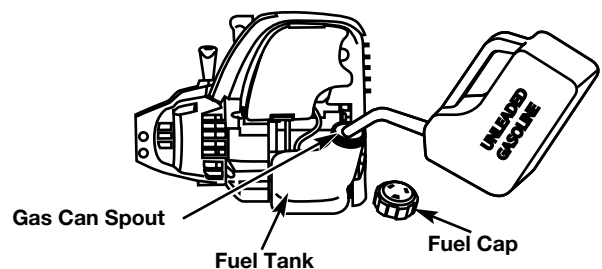

Fig. 19
1. Remove the fuel cap (Fig. 19).
2. Place the gas container's spout into the fill hole on the fuel tank (Fig. 19) and fill the tank.